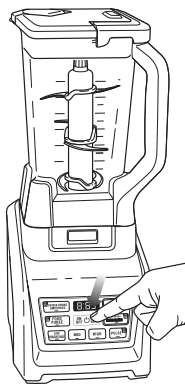

Fig. 8
- 13** When you have reached your desired consistency, stop the appliance by pressing the power button (b) and wait for the blade to stop turning. (Fig. 8)